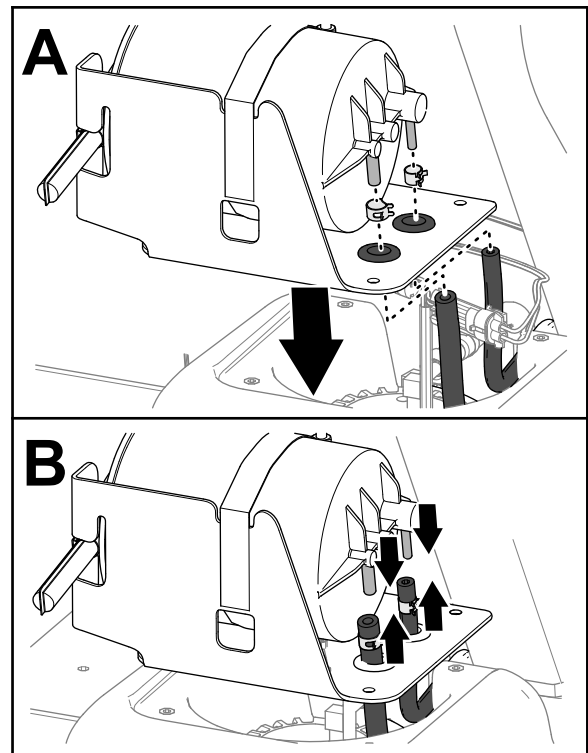

Figure 124
1. Align the fuel tank hoses through the grommets of the carbon-canister bracket (Figure 124).
2. Assemble the hose clamps over the hoses (Figure 124).
3. Assemble the hoses onto the fittings of the carbon canister (Figure 124).